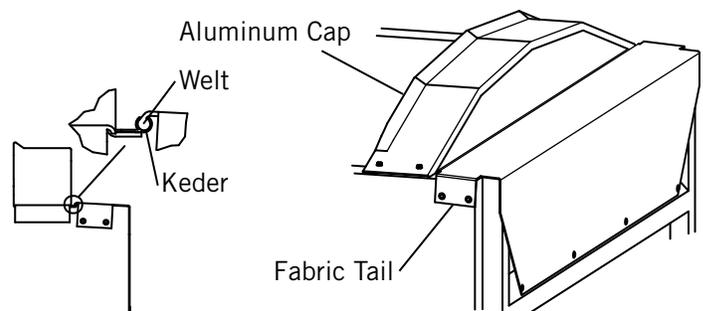

Figure 15-3
- 3) **Figure 15-3.** Insert welt on tail into keder on back of cap and center on width. Use light oil to slide welt in keder.